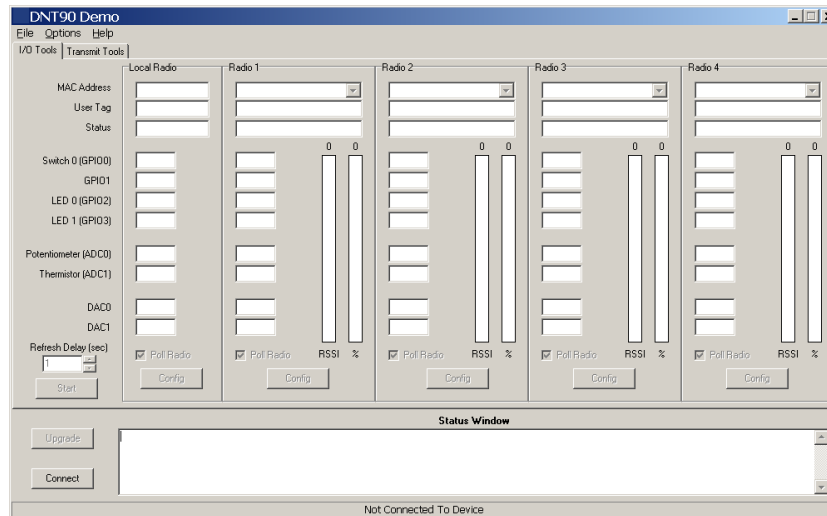

Figure 5
7. The DNT90 Demo utility program is located in the *PC Programs* folder on the kit CD. The DNT90 Demo requires no installation and can be simply copied to the PC and run. Start the Demo on the PC. The Demo program start-up window is shown in Figure 5.